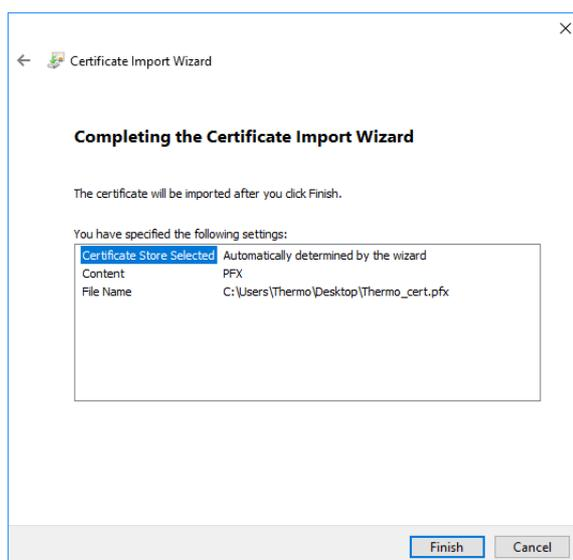

Figure 2-50. Completing the Certificate Import Wizard
8. Click **Finish** to complete the wizard, see Figure 2-50.